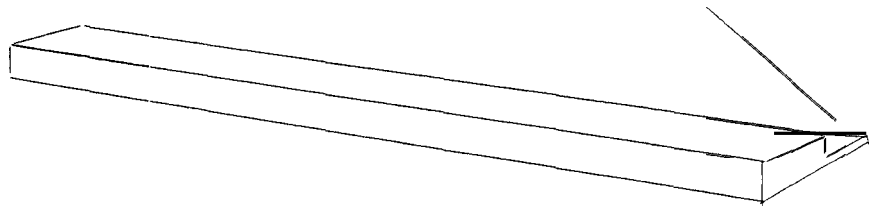

Figure 5-17. Top trim replacement
5. Replace the top and side trims. It is important that the top trim is replaced as shown in Figure 5-17.